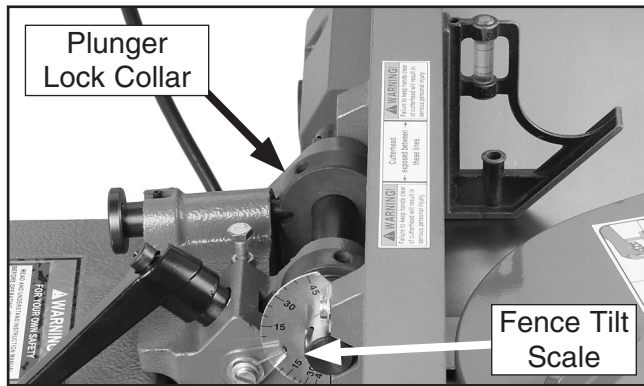

Figure 63. Adjusting fence to 90°.
1. Loosen the set screw in the plunger lock collar, shown in **Figure 63**, and loosen the fence tilt lock.
2. Using a 90° square, adjust the fence to the 90° position, as shown in **Figure 63**.